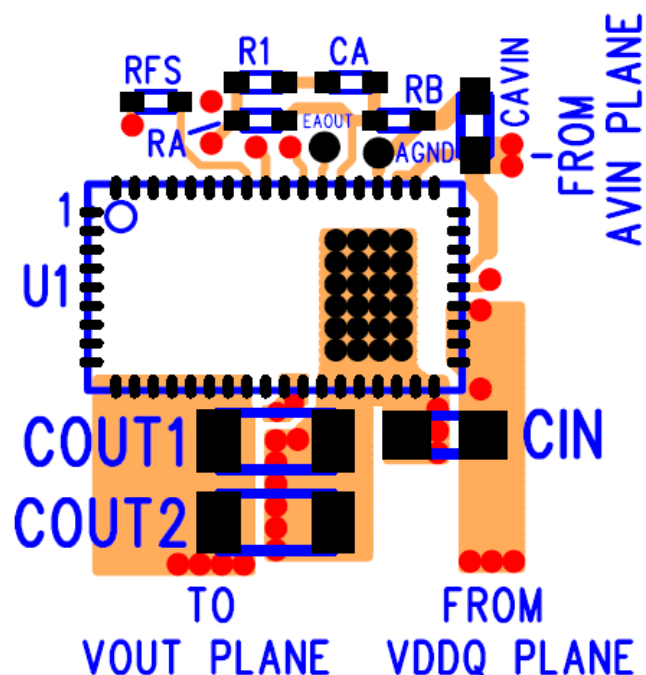
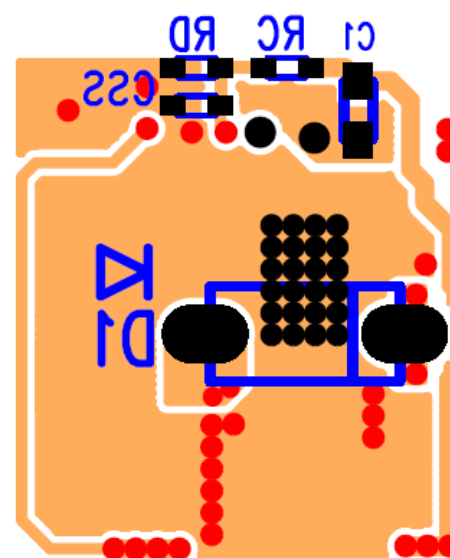

Figure 8: Top PCB Layer with Critical Components and Copper for Minimum Footprint (Top View)
Figure 9: Bottom PCB Layer with Critical Components and Copper for Minimum Footprint (Top View)
Figure 8 and Figure 9 shows critical components along with top and bottom traces of a recommended minimum footprint of the EV1340QI layout with ENABLE tied to  $V_{IN}$ . Alternate ENABLE configurations and other small signal pins need to be connected and routed according to specific customer application. Please see the Gerber files at [www.altera.com/enpirion](http://www.altera.com/enpirion) for exact dimensions and other layers. Please refer to Figures 8 and 9 while reading the layout recommendations in this section.
The drill diameter of the vias should be 0.33mm, and the vias must have at least 1 oz. copper plating on the inside wall, making the finished hole size around 0.20-0.26mm. Do not use thermal reliefs or spokes to connect the vias to the ground plane. This connection provides the path for heat dissipation from the converter. Please see Figures 8, 9, 10, and 11.
**Recommendation 5:** Multiple small vias (the same size as the thermal vias discussed in recommendation 4) should be used to connect ground terminal of the input capacitor and output capacitors to the system ground plane. It is preferred to put these vias under the capacitors along the edge of the GND copper closest to the +V copper. Please see Figure 8 and Figure 9. These vias connect the input/output filter capacitors to the GND plane and help reduce parasitic inductances in the input and output current loops. If the vias cannot be placed under  $C_{IN}$  and  $C_{OUT}$ , then put them just outside the capacitors along the GND slit separating the two components. Do not use thermal reliefs or spokes to connect these vias to the ground plane.
**Recommendation 6:** AVIN1 and AVIN2 are the power supplies for the internal small-signal control circuits. AVIN1 and AVIN2 should be powered by an external supply. In Figure 8, the filter capacitor  $C_{AVIN}$  is connected closely from the AVIN1 and AVIN2 pins to AGND for proper filtering of the control circuit.
**Recommendation 7:** The layer 1 metal under the device must not be more than shown in Figure 8. See the section regarding exposed metal on bottom of package. As with any switch-mode DC/DC converter, try not to run sensitive signal or control lines underneath the converter package on other layers.
**Recommendation 9:** Keep  $R_A$ ,  $C_A$ ,  $R_1$  and  $R_B$  close to the VFB pin (see Figure 8). The VFB pin is a high-impedance, sensitive node. Keep the trace to this pin as short as possible. Whenever possible, connect  $R_B$  directly to the AGND pin instead of going through the GND plane.
**Recommendation 12:** The Schottky diode  $D_1$  should be connected with anode to SW and cathode to VDDQ with very low inductance traces. Place  $D_1$  directly under the device as shown in Figure 9. Vias near SW and VDDQ connect these pins to the  $D_1$  terminals. The recommended diode for this layout is ST Microelectronics TMBYV10-40FILM. Contact Power Applications support for alternate options for this diode.